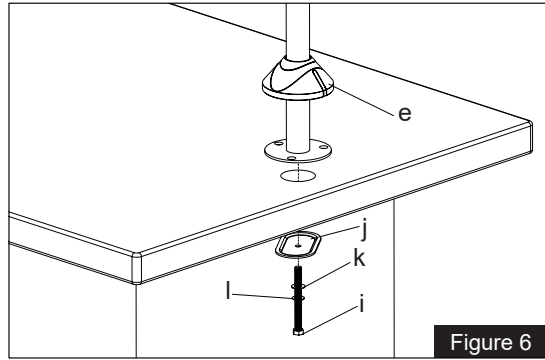

Figure 6
2. Position Pole on the mounting surface and secure using the Support Plate (**j**), M10 Washer (**k**), Spring Washer (**l**) and M10 Bolt (**i**). Tighten using the Wrench (**t**), and slide Decorative Cover (**e**) over the top of the Pole. See Figure 6.